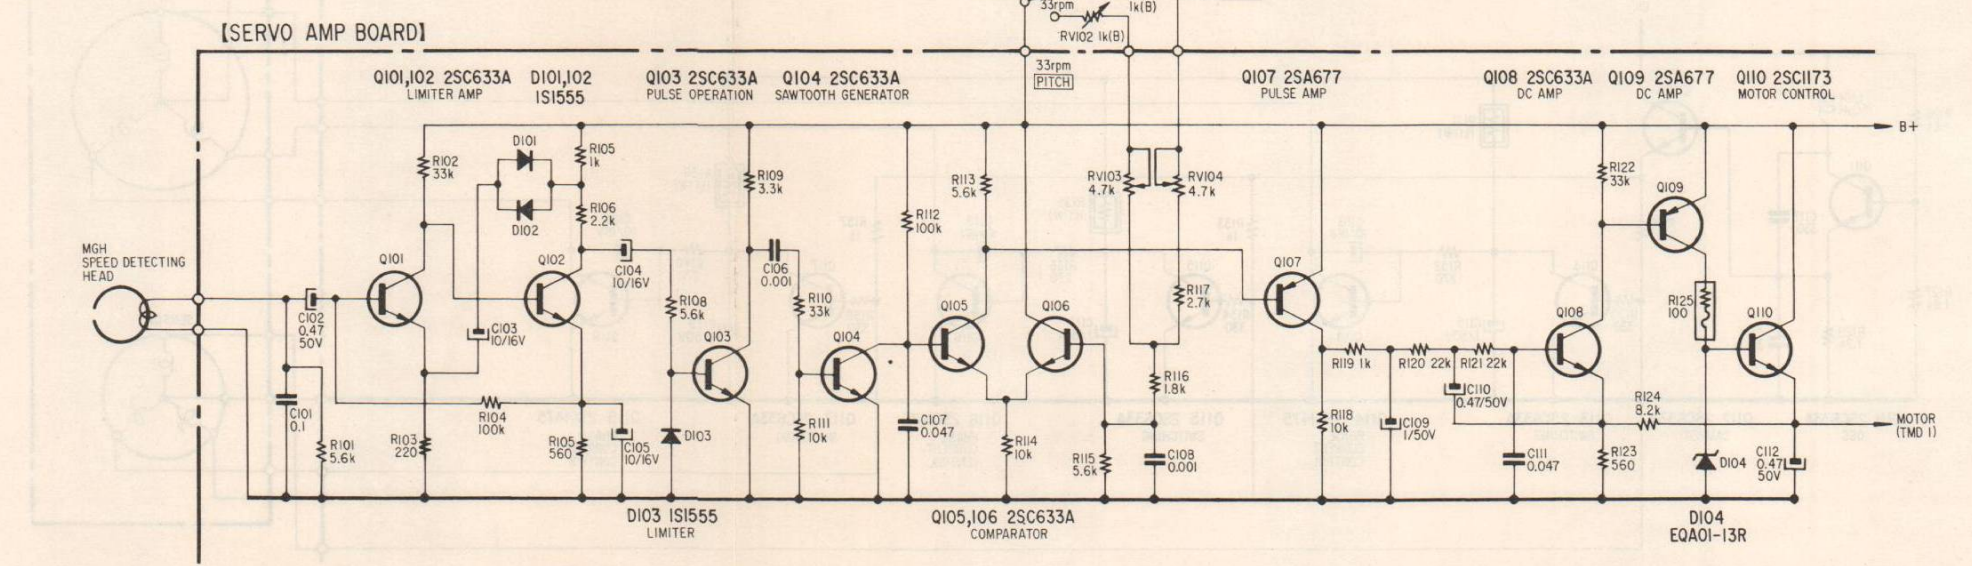

Fig. 2-4.
When Motor is Started Up (see Fig. 2-4)
Limiter Circuit (Q101 and Q102) (see Fig. 2-4)
Waveform Shaping Circuit (Q103 and D103) (Fig. 2-4)
Differential Circuit (C106, R110, R111) (Fig. 2-4)
Sawtooth Wave Generator Circuit (Q104, C107, R112) (Fig. 2-4)
**Comparator Circuit (Q105, Q106)** (Fig. 2-4)
**Pulse Amplifier Circuit (Q107)** (Fig. 2-4)
**Smoothing Circuit (Low-pass Filter) (Q108, R119, C109, R120, R121, C110, C111)** (Fig. 2-4)
**DC Amplifier Circuit (Q108, Q109)** (Fig. 2-4)
**Control Transistor (Q110)** (Fig. 2-4)
**Operation of Servo Mechanism** (Fig. 2-4)
**Speed Selector Switch** (Fig. 2-4)